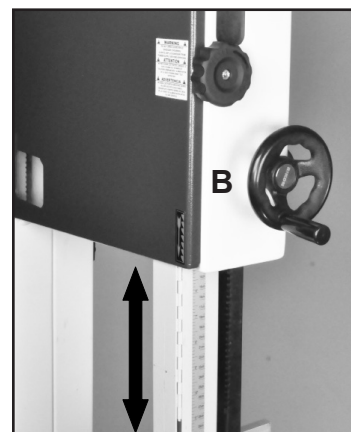

FIGURE 29
1. Loosen the Guidepost Lock Knob (#1C, Fig. 30A) and turn the Guidepost Handle (#38C, Fig. 29, B) to raise or lower the guide post/upper blade guide assembly to the desired height. A measurement scale has been supplied on the right side of the guide post for quick reference on the height of the guide bearings above the table surface.